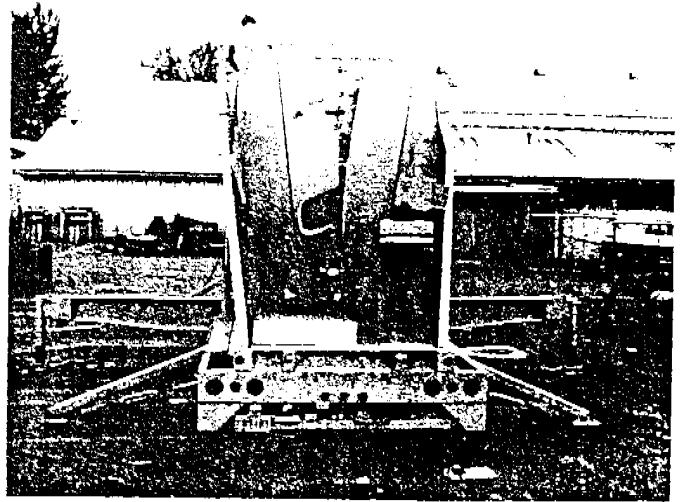

Fig. 50
- a. Lift up on the right lever at the control center to raise the platforms to the full folded upright position. (Fig. 50)